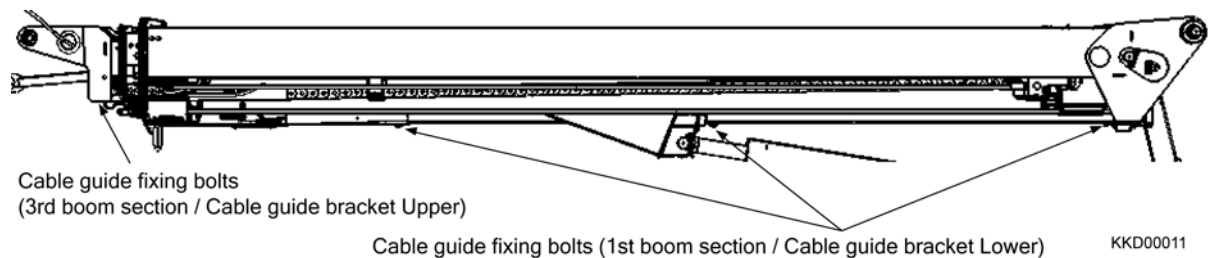

Fig. 2-36
- 15) Remove the cable guide fixing bolts. (Fig. 2-36)